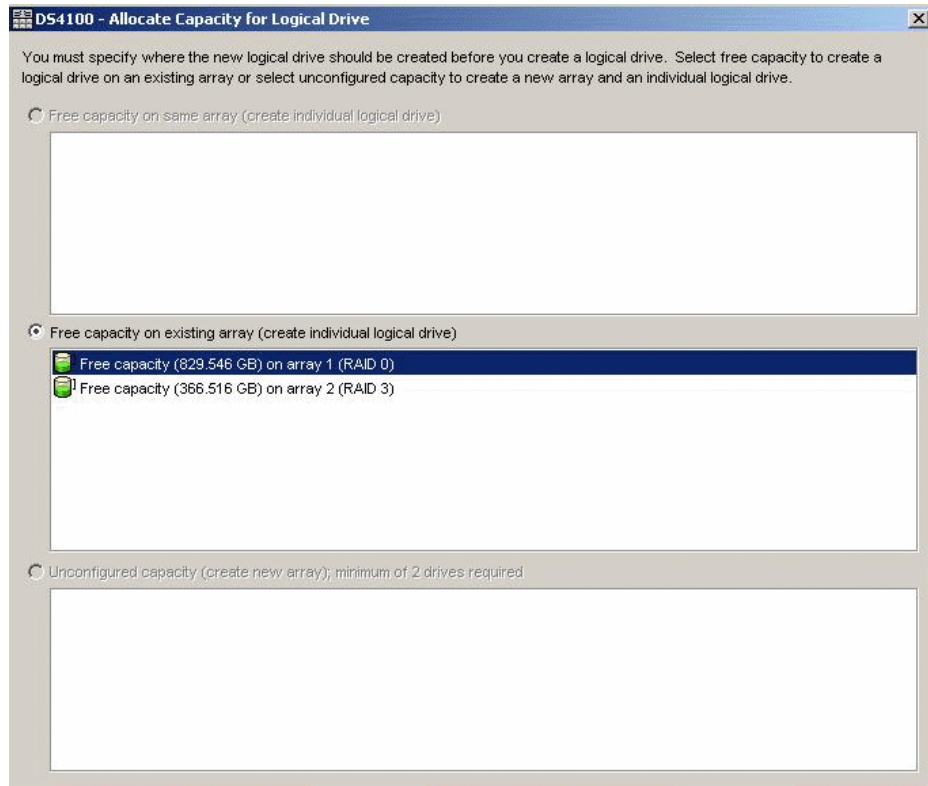

Figure 9-40 Allocate Capacity for Logical Drive window
9. Select **Create individual logical drives** and click **OK**. You will see a window similar to Figure 9-40.